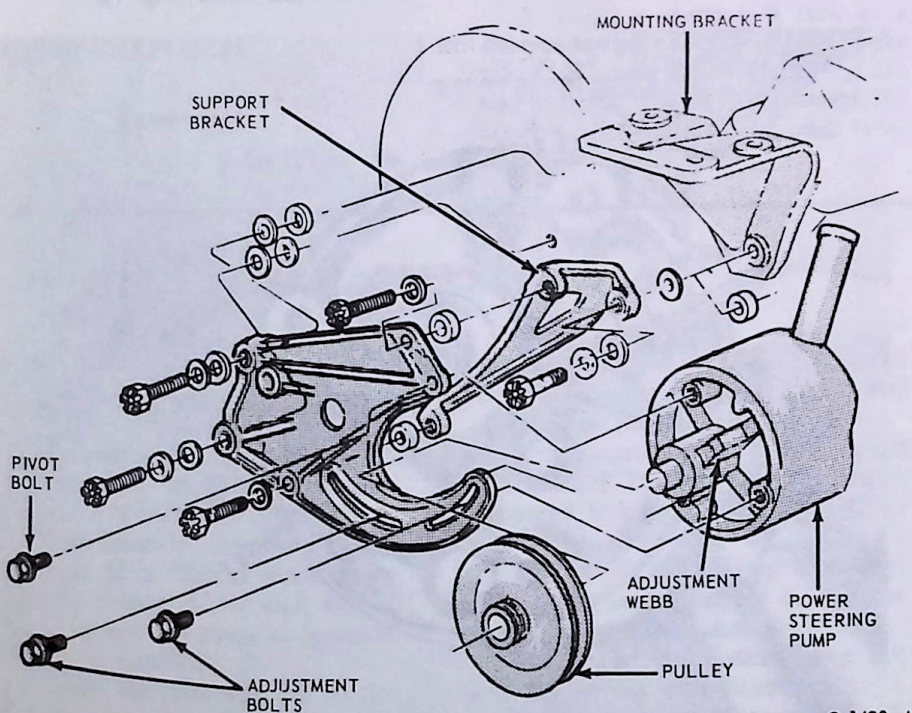

FIG. 4 Power Steering Pump Installed—Ford-Thompson
1. Loosen the pivot bolt (top) and the two adjustment bolts (lower) (Fig. 4) and remove the drive belt.
1. Position the pump to the bracket and install but do not tighten the two adjustment bolts and one pivot bolt (Fig. 4).